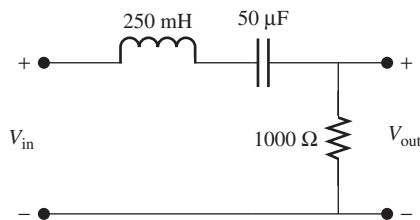

FIGURE P7.38 Circuit for Problem 7.38.
7.38 (A)* From the circuit shown in Figure P7.38, determine: